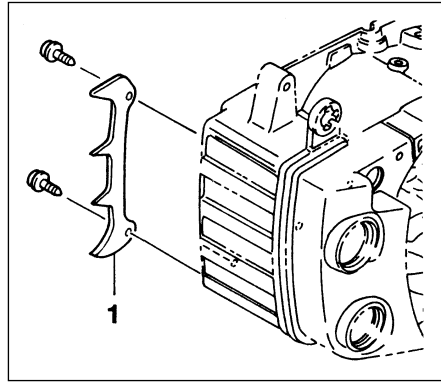

Fig.1-1B
* Install the spiked bumper (1) (if so equipped) to the unit with the two screws. (Fig.1-1B)